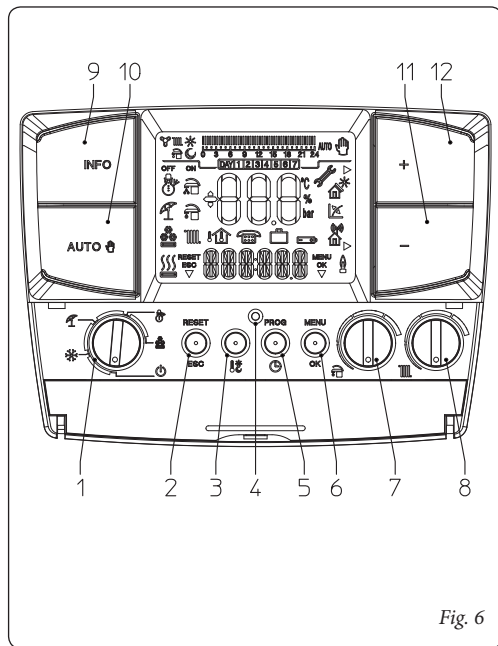

Fig. 6
RESET ESC ▽	description of functioning of the button (2 fig. 6) - Reset, or esc
▷	indicates that it is possible to modify a parameter via the two buttons (11 and 12 fig. 6)
description of functioning of the button (6 fig. 6) - Menu or Ok
By turning the main selector (ref. 1 fig. 6) the following functions can be selected: Stand-by/Anti-freeze, Summer, Winter, Cooling.